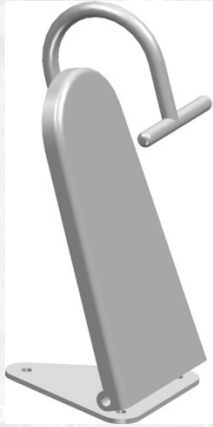

Figure 1 Throttle Pedal Toe Hook
- Toe hook must enable the driver to pull back on the pedal with foot in the event of a stuck throttle. See diagram on FIG 1.
- Each vehicle must have a foot throttle incorporating two (2) positive action return springs attached directly to the carburetor/throttle body arm and must register a minimum pull of two (2) pounds each. A positive stop or over-ride prevention